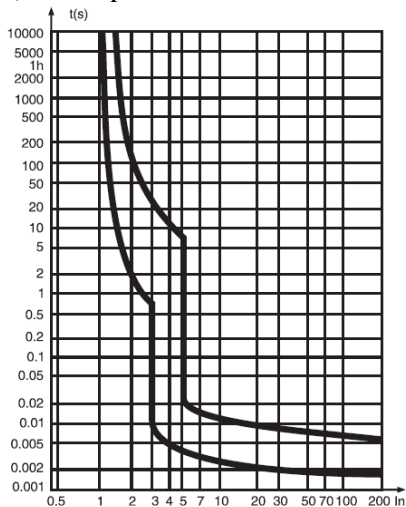
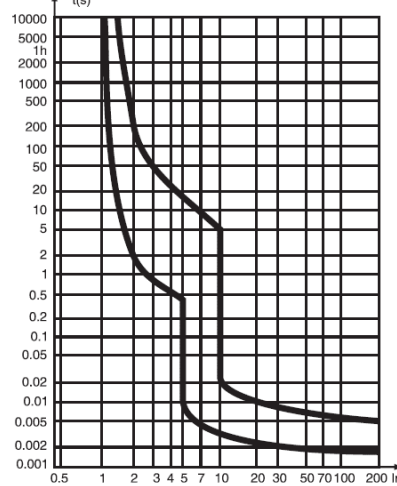

Fig. 1 B type thermal/electromagnetic trip characteristic curve
Fig. 2 C type thermal/electromagnetic trip characteristic curve
c) The protection characteristic curves of the circuit breaker are shown in Fig. 1 and Fig. 2, respectively.